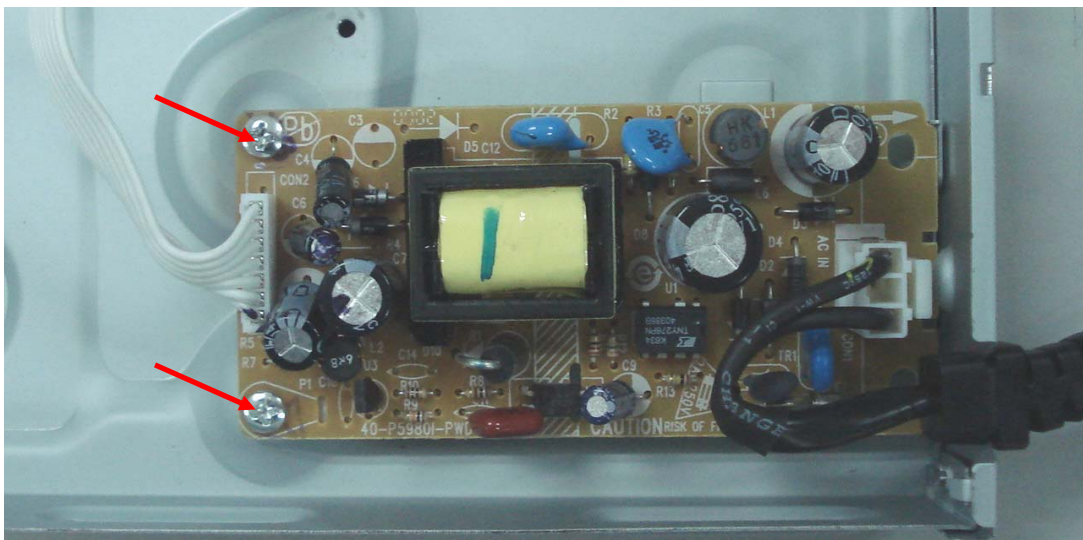

Figure 9
Step7: Remove the 2 screws on Power Board to dismantle the Power Board. (Figure 9)